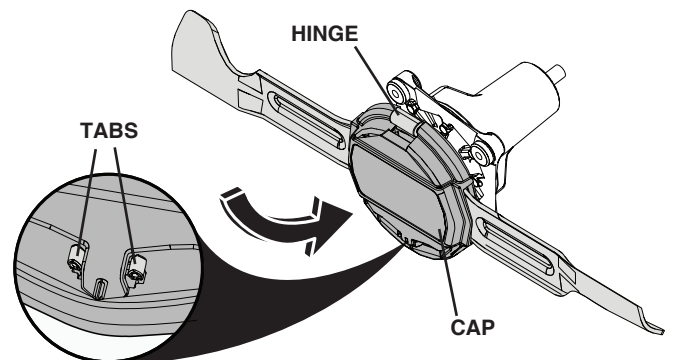

Fig. 34
- Reinstall cap. Hook cap onto hinge and rotate onto tabs. Press cap firmly into place, ensuring both tabs lock into cap. (See Fig. 34.)